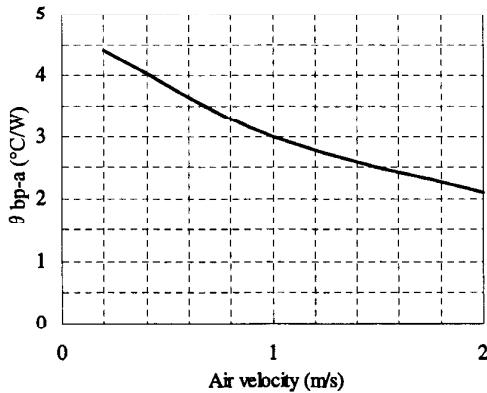
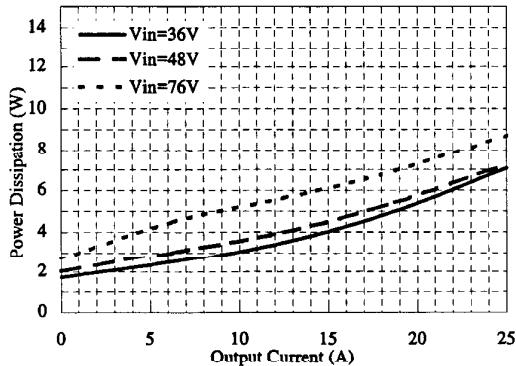

Fig.1-3 Thermal resistance at Baseplate - Air vs Air velocity (typical value)
Fig.1-4 PAQ100S48-1R2/B Power dissipation vs Output Current
Forced cooling to power module improve radiation capability more than convection cooling. Figure 1-3 indicates thermal resistance value between baseplate and air at standard vertical mounting. For details on standard vertical mounting, refer to "PAQ-S48 Series Instruction Manual" Figure 1-4 to 1-8 indicates power dissipation (Pd) of each models at following condition.
Air Velocity is as shown in Fig.1-3
- 1) Data shown in Fig.1-3 to 1.8 is the typical value and it changes depends on measurement condition. Recommend to design with sufficient margin against calculation value.
- 2) When the condition of input voltage and output voltage are different and it is impossible to determine power dissipation (Pd) from Fig.1-4 to 1-8, calculate power dissipation as follows.